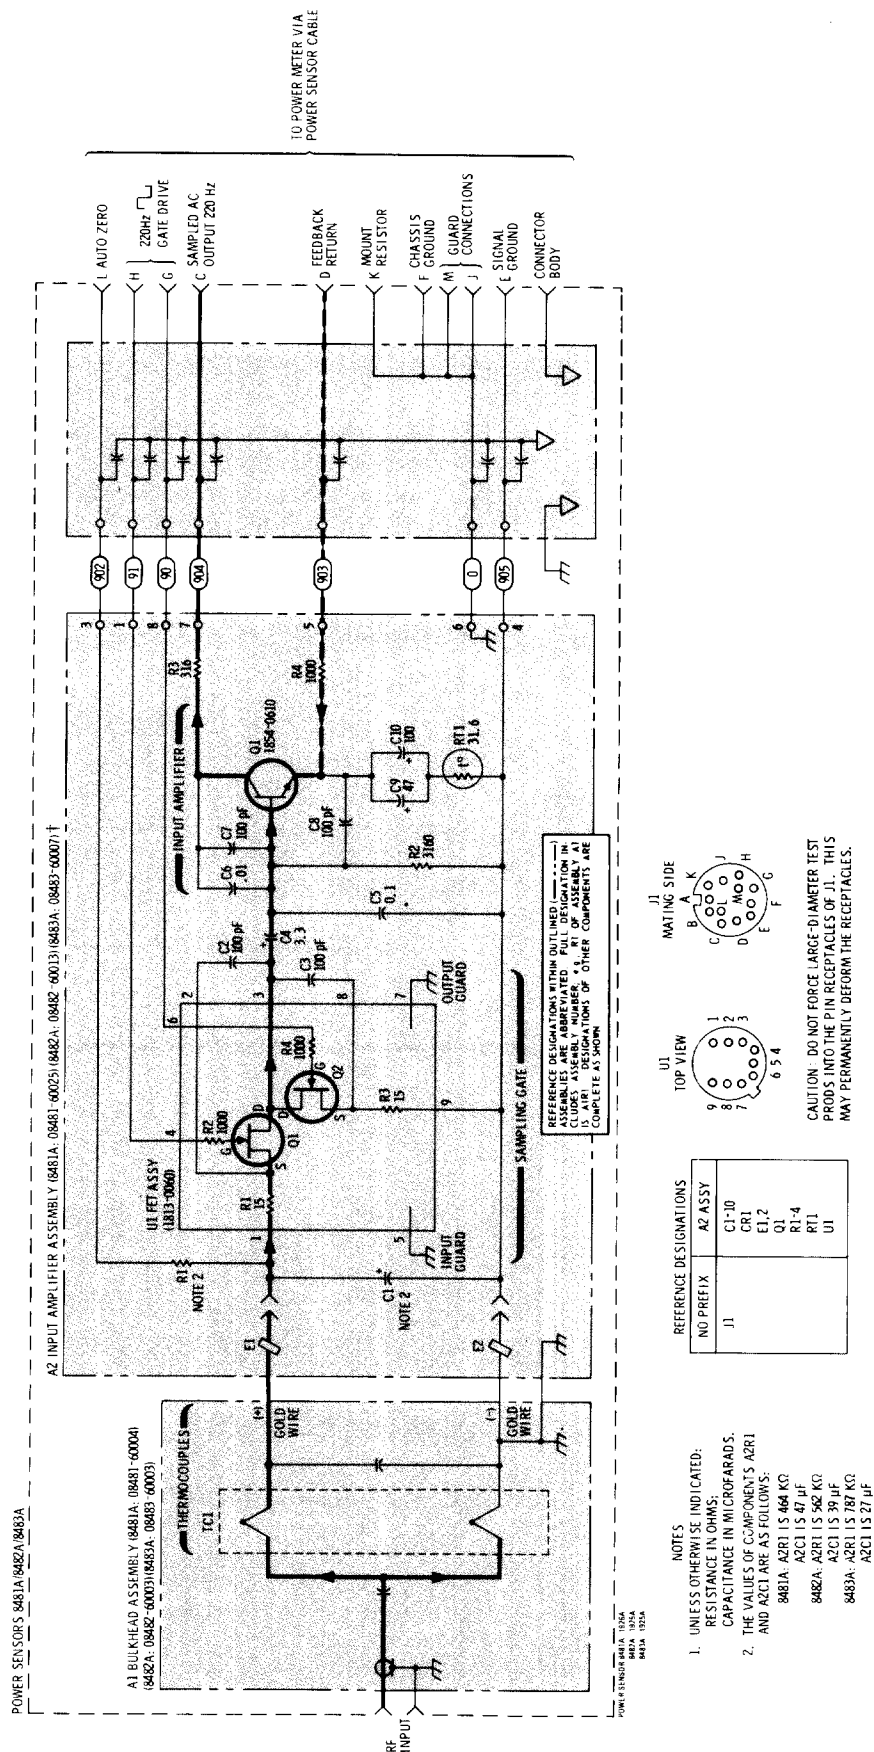
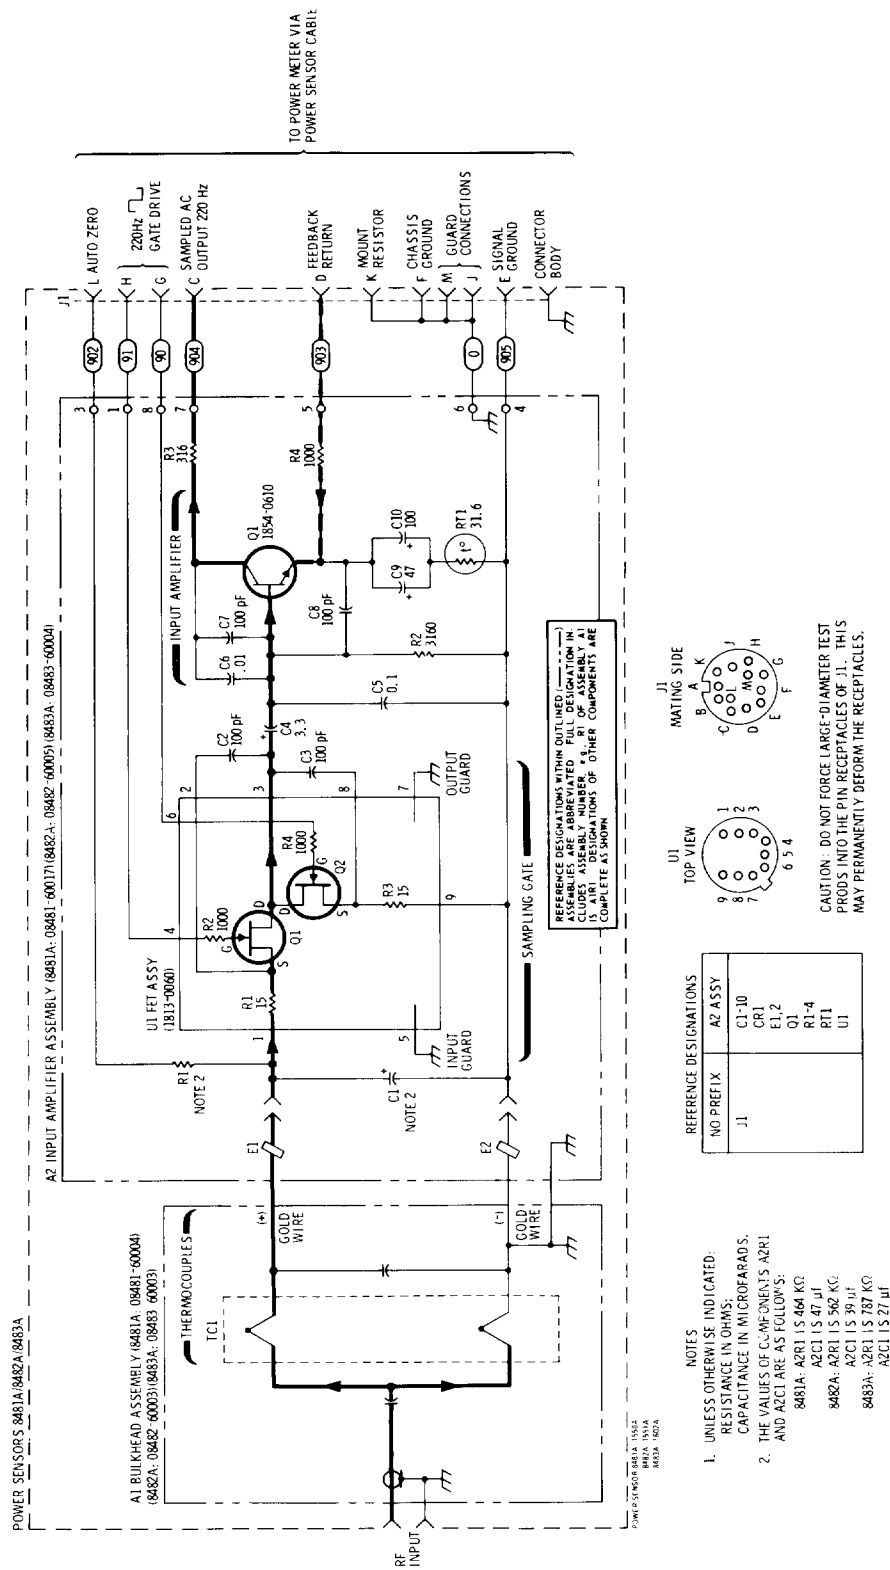

Figure 4. Schematic Diagram
Figure I-1. Schematic Diagram (P/O Change A)
48. Figure 3 shows the locations of the assemblies and components. Figure 4 is the schematic diagram.
Page 10, Figure 4:
Replace Figure 4 with Figure I-1.